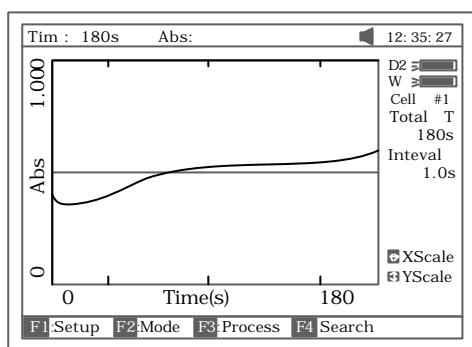

Fig 56
4. Pull the sample cuvette into the light path, press **【START】** to scan the sample. After the delay time, the beeper beeps 3 times and time -scan starts. At the end of the time-scan, the beeper also beeps 3 times (Fig 56);
Press the key **【SAVE】** to save curve. Note: Load/Save requires the first kinetics display page Fig. 56. Press **ESC** if in Search to return to the required page.